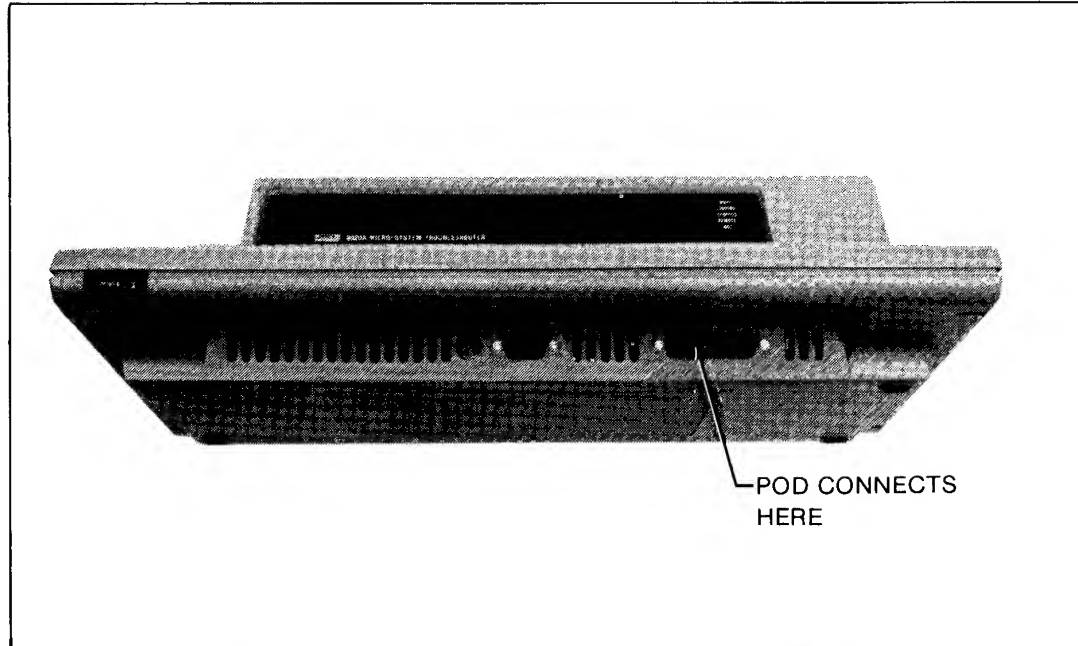

Figure 2-1. Connection of Interface Pod to Troubleshooter
3. Using the round shielded cable, connect the pod to the troubleshooter at the location shown in Figure 2-1. Secure the connector using the sliding collar.